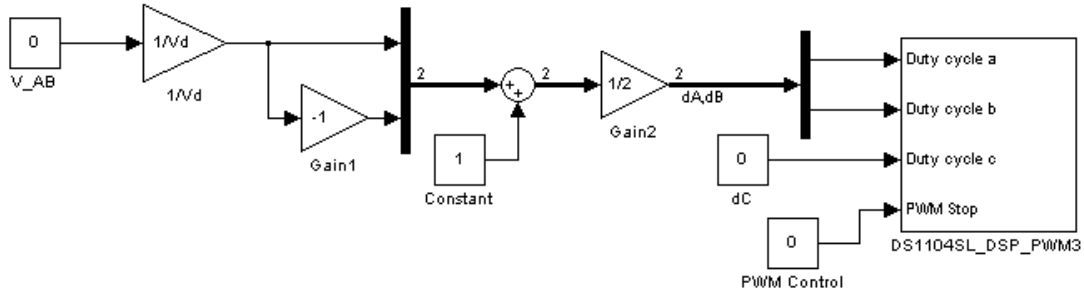

Figure 3.4: Two Pole Switch-Mode Converter Model in Simulink
DSPACE provides a block called **DS1104SL_DSP_PWM3**, which embeds the triangular waveform generator and the comparator for all converter poles. Thus, when building a real-time system, all the upper portion of the model is replaced with this dSPACE block to generate the PWM signal, as shown in Fig. 3.4. The inputs in the **DS1104SL_DSP_PWM3** are the duty-ratios needed for converter control.
- Connect a constant block to the remaining inputs as shown in Fig. 3.4.